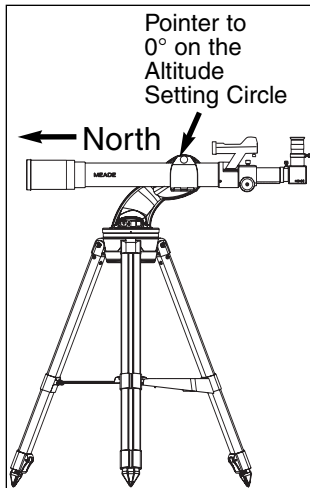

Fig. 16: Alt/Az Home Position.
1. Loosen the telescope's Altitude lock (see **Fig. 16 and 17**).
**IMPORTANT NOTE:** *The accuracy of One-Star Alt/Az Alignment, unlike the Two-Star Alignment procedures, depends on how well the observer levels the telescope and how close to North the telescope is pointed when setting the Home Position (Fig. 16). Because the Two-Star Alignment methods use two stars to align upon, they are more precise than One-Star Alignment.*